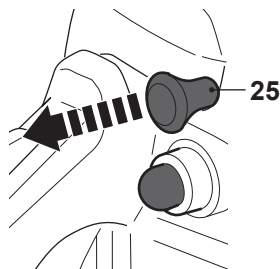
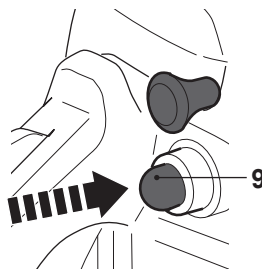

Fig. 25
Fig. 26
- > If the engine is cold, pull out the choke knob (25) to the start position (closed position) (Fig. 25). The throttle trigger will then be set in the starting position. Press the primer (9) until the bubble is completely filled with fuel (Fig. 26).